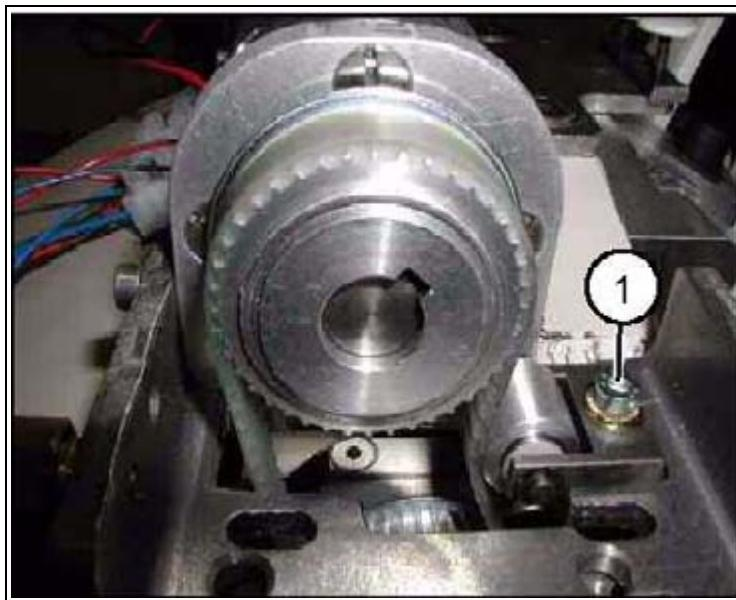

Fig. 30: Toothed belt of the orbital drive\_1
1. Loosen the belt tensioner of the toothed belt of the orbital drive (1/Fig. 30 / p. 73).
15. Tension the toothed belt of the orbital drive again \(1/Fig. 30 / p. 73\). When depressed by thumb pressure on the opposite side, the belt should give approx. 2 to 3 mm.